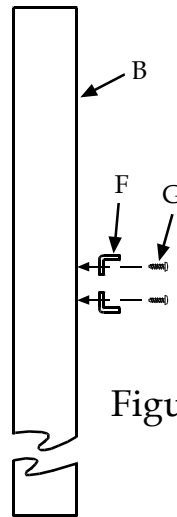

Figure 2
- 1) Attach L Brackets (F) to Vertical Posts (B) using 10-24 x 1/2" Screws (G) provided. (See Figure 2)